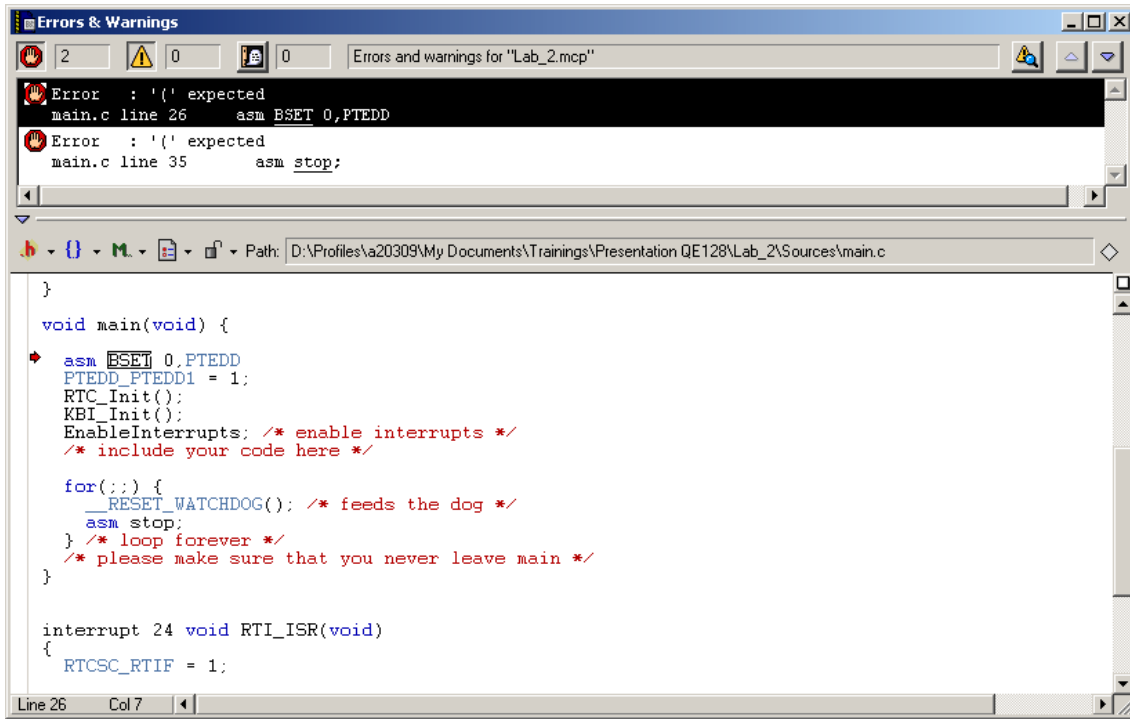

Figure 11. Error Messages after Compiling the Project using the ColdFire V1 Core
8. The device has changed. Figure 11 shows the porting mistakes errors.